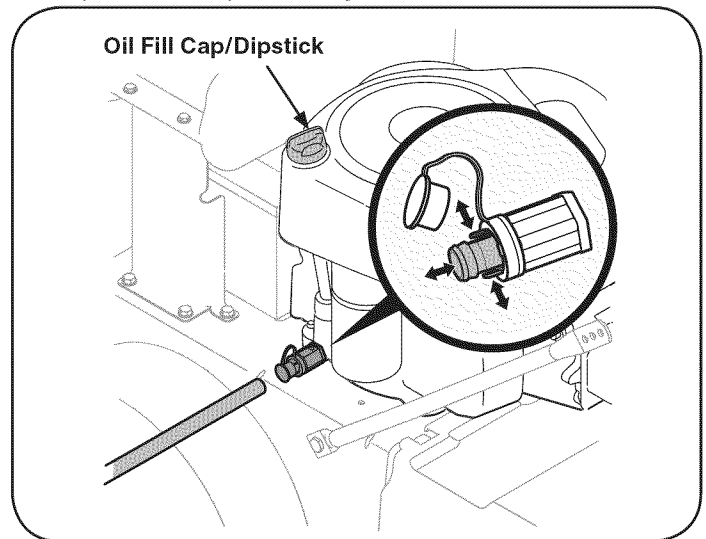

Figure 14
3. Pop off the protective cap on the end of the oil drain valve to expose the drain port. See Figure 14.
4. Remove the oil fill cap/dipstick from the oil fill tube, Figure 14.